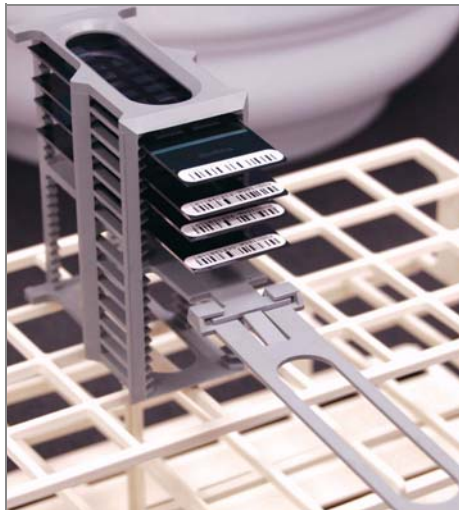

Figure 168 Staining Rack in Correct Orientation
17. Remove the staining rack in one smooth, rapid motion and place it directly on the prepared tube rack, making sure the barcodes face **up** and the locking arms and tab face **down** (Figure 168, showing 8 BeadChips).